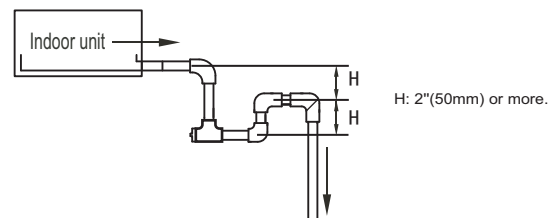

Fig. 18 —Trap at Piping End
- Sizes 072-096 do not have a factory-installed condensate pump and are “drawn through” fans that create suction. Therefore, a condensate trap is required. See Fig. 18.